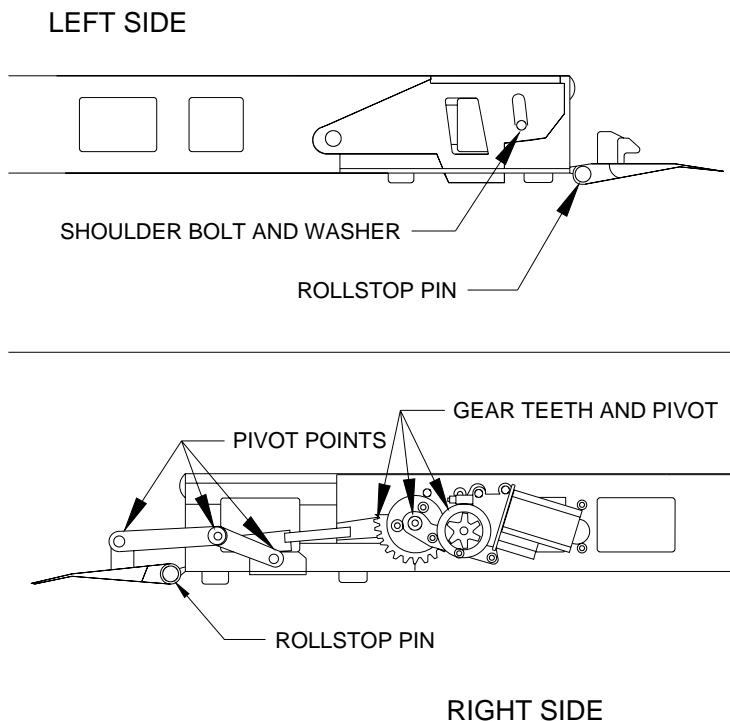

FIGURE 4-4: ROLLSTOP LUBRICATION POINTS
- 6) Refer to **Figure 4-4**. Lubricate rollstop pivot points and gears (both sides of platform) using light grease (ZEP PLS, p/n 497C, Curtisol® Red Grease p/n 88167, or equivalent). Wipe off excess grease.